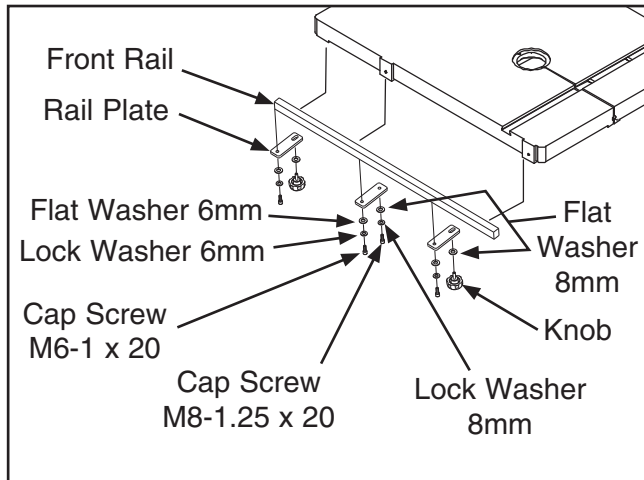

Figure 40. Installing front rail onto table.
1. Attach the rail plates to the front square rail with the three M6-1 x 20 cap screws, 6mm lock washers, and 6mm flat washers (see **Figure 40**).
3. Attach the remaining rail plate with the round mounting holes using an M8-1.25 x 20 cap screw, 8mm lock washer and 8mm flat washer (**Figure 40**).